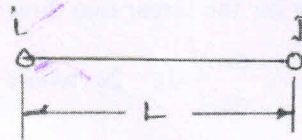

Fig.Q9
- 9 For the pin jointed truss element shown in Fig.Q9 prove that fundamental frequency is given by $\omega = \frac{0.648}{L} \sqrt{E/\rho}$. (16 Marks)